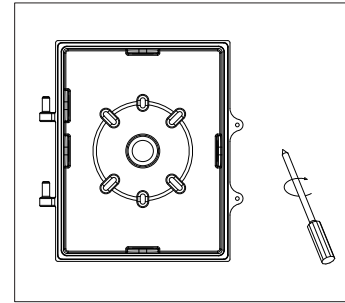

Figure 9
Step 6: Align the holes on the back housing with the holes on the wall, and tighten the screws(Figure 9);